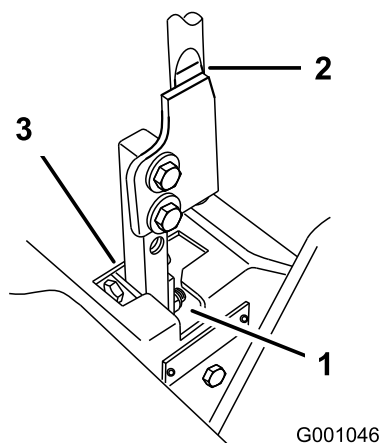

Figure 60
5. Move the lever to the neutral position but not locked (Figure 60).
6. Pull the lever back until the pin (on arm below pivot shaft) contacts the end of the slot (just beginning to put pressure on the spring) (Figure 60).
7. Check where the control lever is relative to notch in console (Figure 60). It should be centered allowing lever to pivot outward to the neutral lock position.